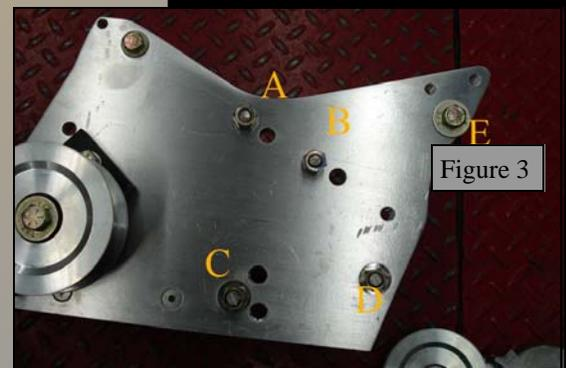

Figure 3
5. Remove the tensioner and eccentric idler from the main bracket. Slide main bracket over all threaded rods through their given holes (tall or short deck, see Figure 3. Install and tighten 3/8-16 nuts onto positions A, B, and C. Turn out the second nut on rod D from step 3 against the back of the bracket; no need to tighten it, just until it touches. Tighten the nut from the other side. Re-install tensioner and eccentric idler loosely.